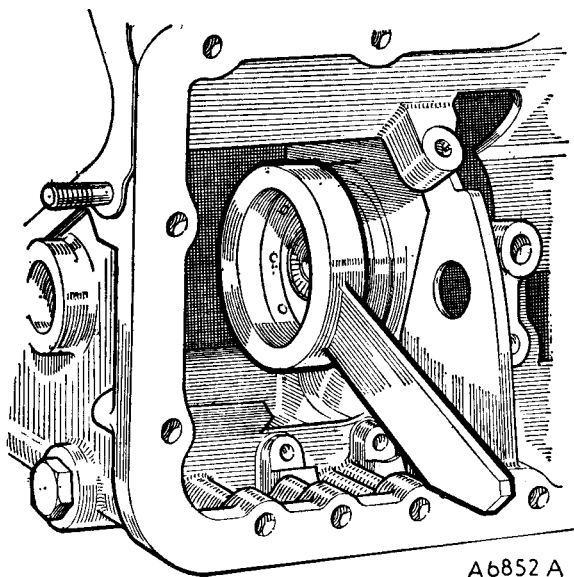
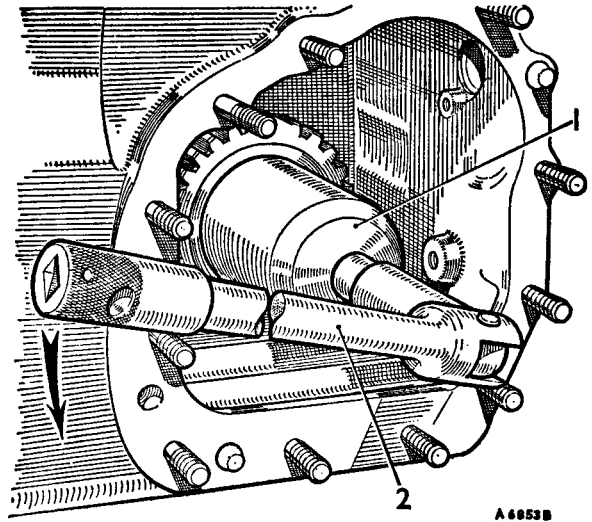

Fig. Fa.14
Fig. Fa.15
20. Knock back the lock washer on the nut on the forward clutch splines and use Service tool 18G 1095 to hold the top and reverse clutch hub (Fig. Fa.14) and remove the nut with 18G 1096 (Fig. Fa.15). Drift out the top and reverse clutch hub and lift out the pinion assembly.